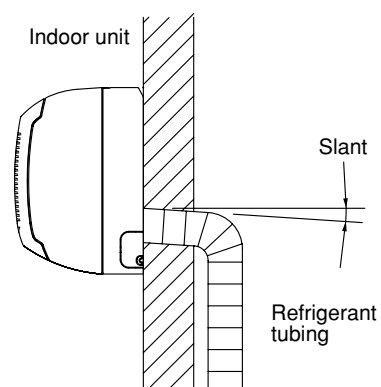

Fig. 3-79
- a) The drain hose should be slanted downward to the outside. (Fig. 3-79)